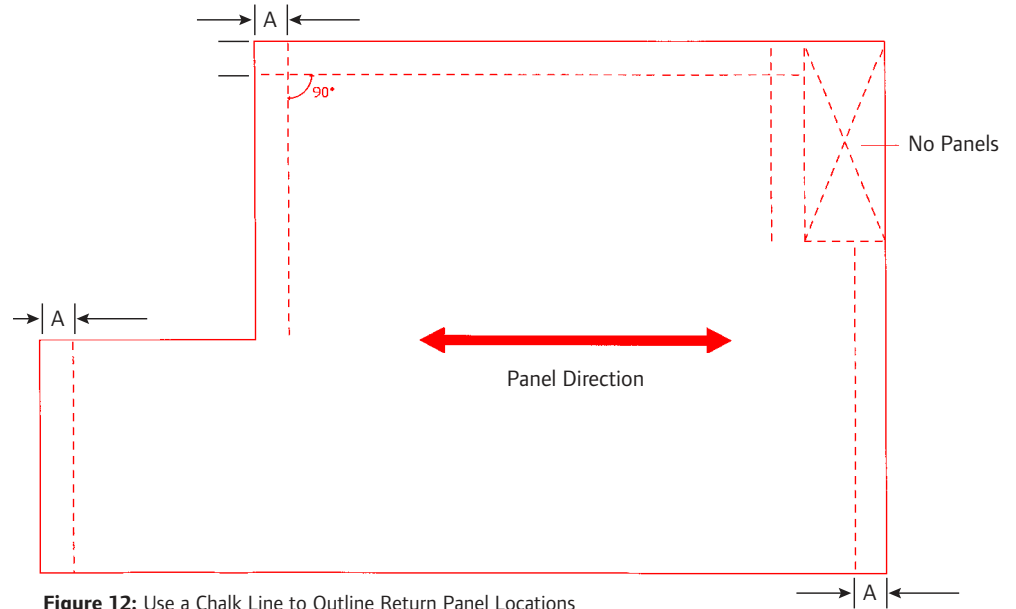

Figure 12: Use a Chalk Line to Outline Return Panel Locations
3. Snap a chalk line to outline each of the Return Panel walls (see **Figure 12**).